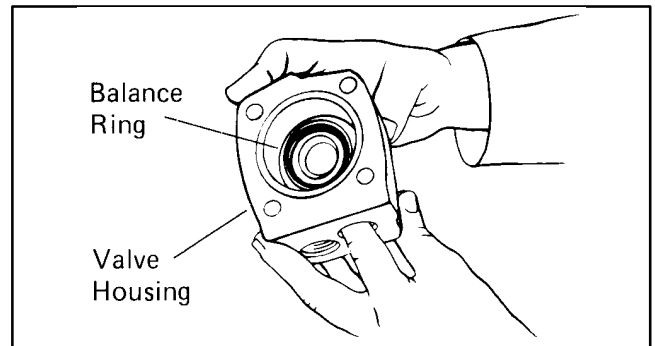
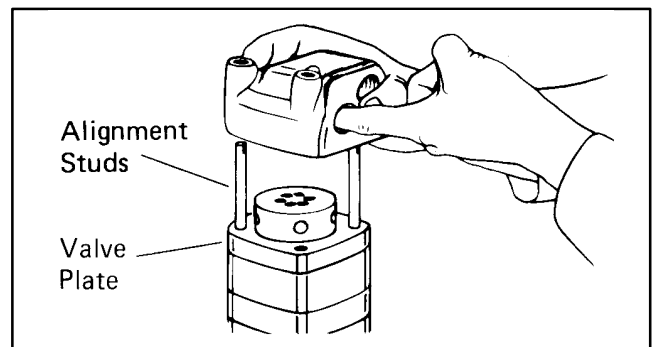

Figure 84
Figure 85
39. Insert your finger through port of valve housing. Apply pressure to side of balance ring as shown in Fig. 84. Hold ring in position until valve housing is in place against valve plate. See Fig. 85.